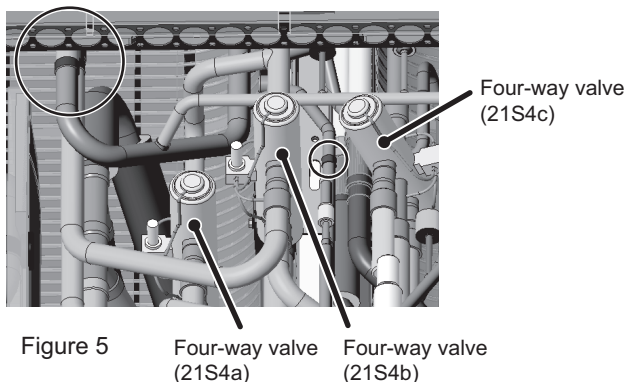

Figure 5
(4) Remove the braze from the pipe on the left side of four-way valve (21S4a) and between four-way valves (21S4b and 21S4c). (See Figure 5.)